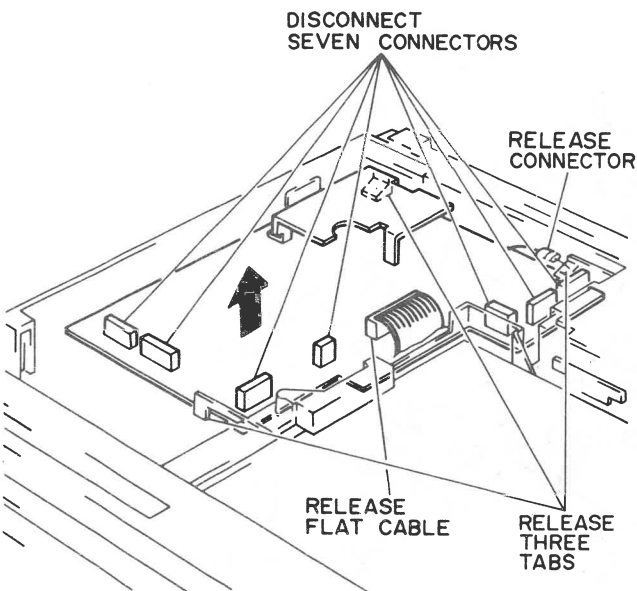

Fig. 6 Servo/System Control Circuit Board Removal
### Servo/System Control Circuit Board Removal (Fig. 6)
1. Remove the bottom cover and refer to Fig. 6
### Regulator/Power Supply Block Removal (Fig. 6)